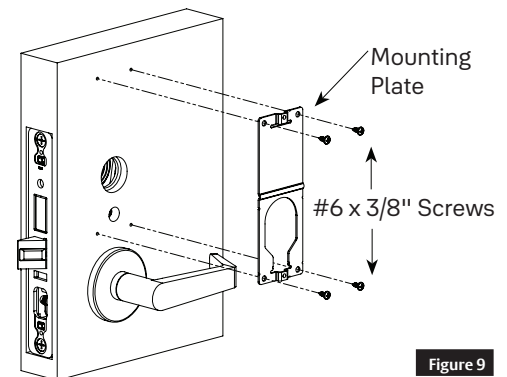

Figure 9
1. Screw indicator mounting plate to door with four (4) #6 x 3/8" sheet metal screws. (Figure 9)